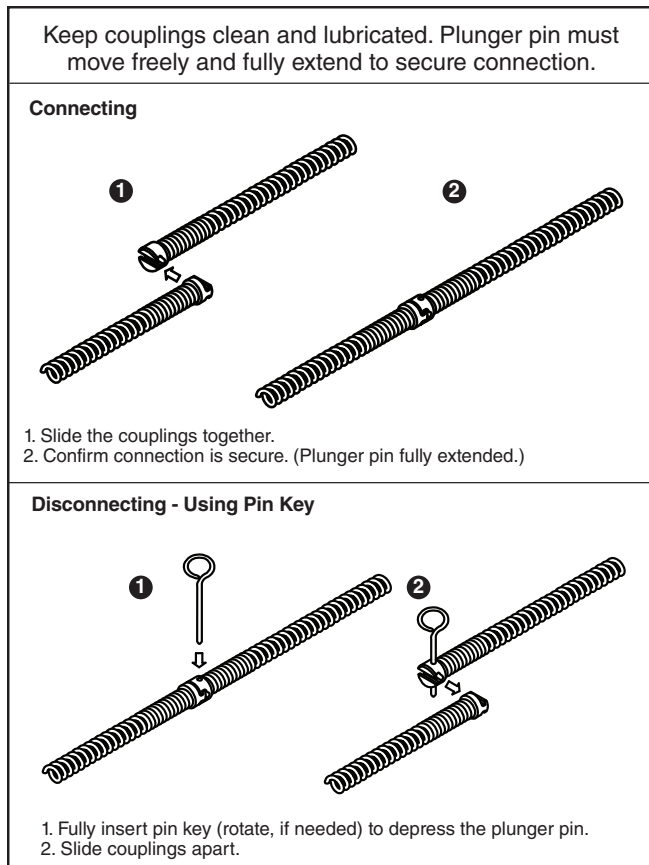

Figure 15 – Connecting/Disconnecting Cable/Tool
10. Securely install cutting tool on the end of the cable (*See Figure 15*). If the connection is not secure, the tool may fall off during use. As the tool is installed, make sure that the spring-loaded plunger in the coupling moves freely to retain the tool. If the pin sticks in the retracted position, the tool may fall off in use.